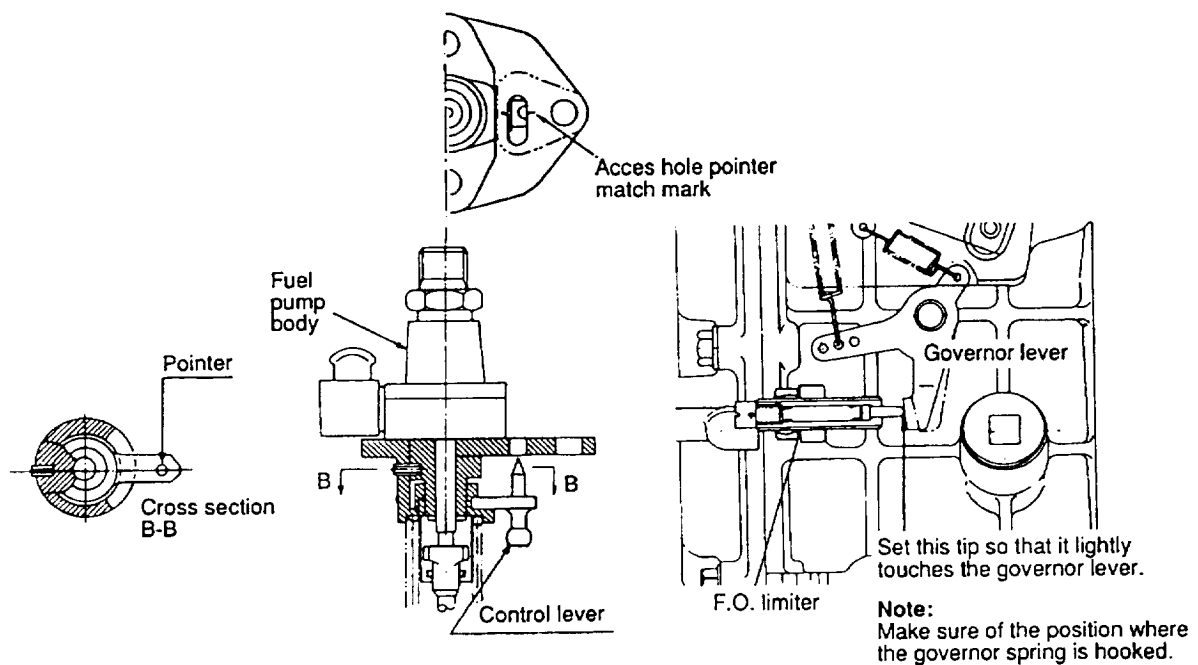

Figure 6-76 Fuel injection volume limitation adjustment
- 1) Adjustment before shipment. The control lever is fixed after the rated revolutions and injection quantity have been checked with the pump installed on the special purpose pump drive table. Then, a mark-off line is marked on the spring sheet to line up with the edge of the control lever (see Figure 6-76).